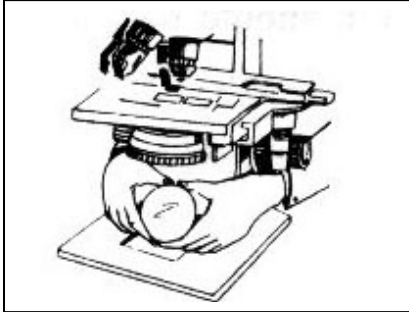

Fig 4.1
- Turn on the light source of the microscope or adjust the mirror if electric light source is not available (Fig. 4.1).